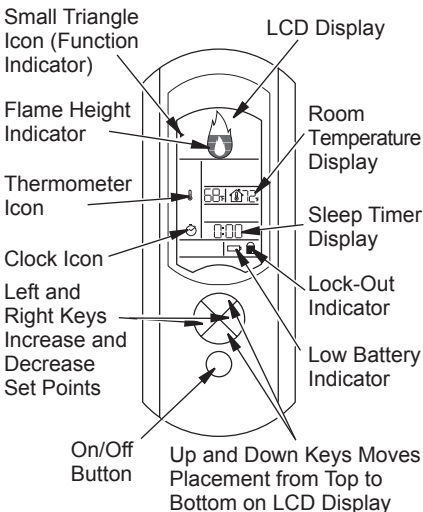

Figure 38 - Remote Control
11. Press the up or down key until the small triangle is to the left of large flame icon at the top of LCD display (see Figure 38, page 22). Press the left or right key to set the desired flame height.
2. Press the ON button on remote control (see Figure 38). Wait 5 seconds to send a command to appliance.
Press the up or down key until the small triangle is to the left of large flame icon at the top of LCD display (see Figure 38). Press the left or right key to set the desired flame height. Six flame levels are available from 1 (minimum) to 6 (maximum).
Press the up or down key until the small triangle is to the left of the thermometer icon (see Figure 38). Press the left or right key to set the desired room temperature.
Press the up or down key until the small triangle is to the left of the clock icon (see Figure 38). Press the left or right key to set the desired sleep time. Maximum sleep time is 90 minutes, in 15 minute increments. When desired time is set, press the up or down key to start the timer. When the desired time has elapsed, the appliance will automatically switch off.
To lock the remote control keys, press the On/Off key then immediately press the up key (see Figure 38). The lock-out function is active when the lock icon is lit. Repeat key sequence to unlock keys.
A battery icon will be displayed on the LCD display when batteries are low in the remote control (see Figure 38).